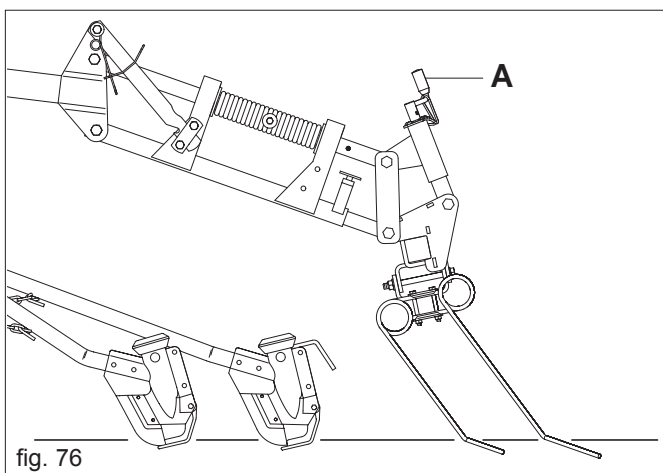

fig. 76
The normal working position of the harrow is shown in Figure 76. In this position, the wear on the teeth, between the long and the short one is even and uniform. By adjusting the regulating handle (A), it is possible to change the angle of the harrow.